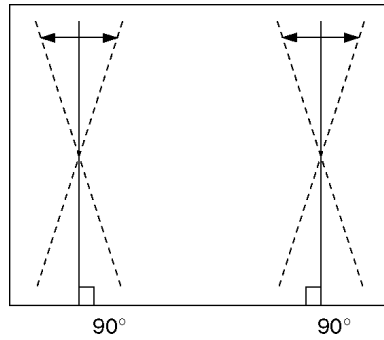

Fig. 4
4. Adjust the vertical line to straight line of bothside vertical line in Fig. 4 by Trapezoid (100i / 4:3).
4. Adjust the vertical line to straight line of bothside vertical line in Fig. 4 by Trapezoid (120i / 4:3).